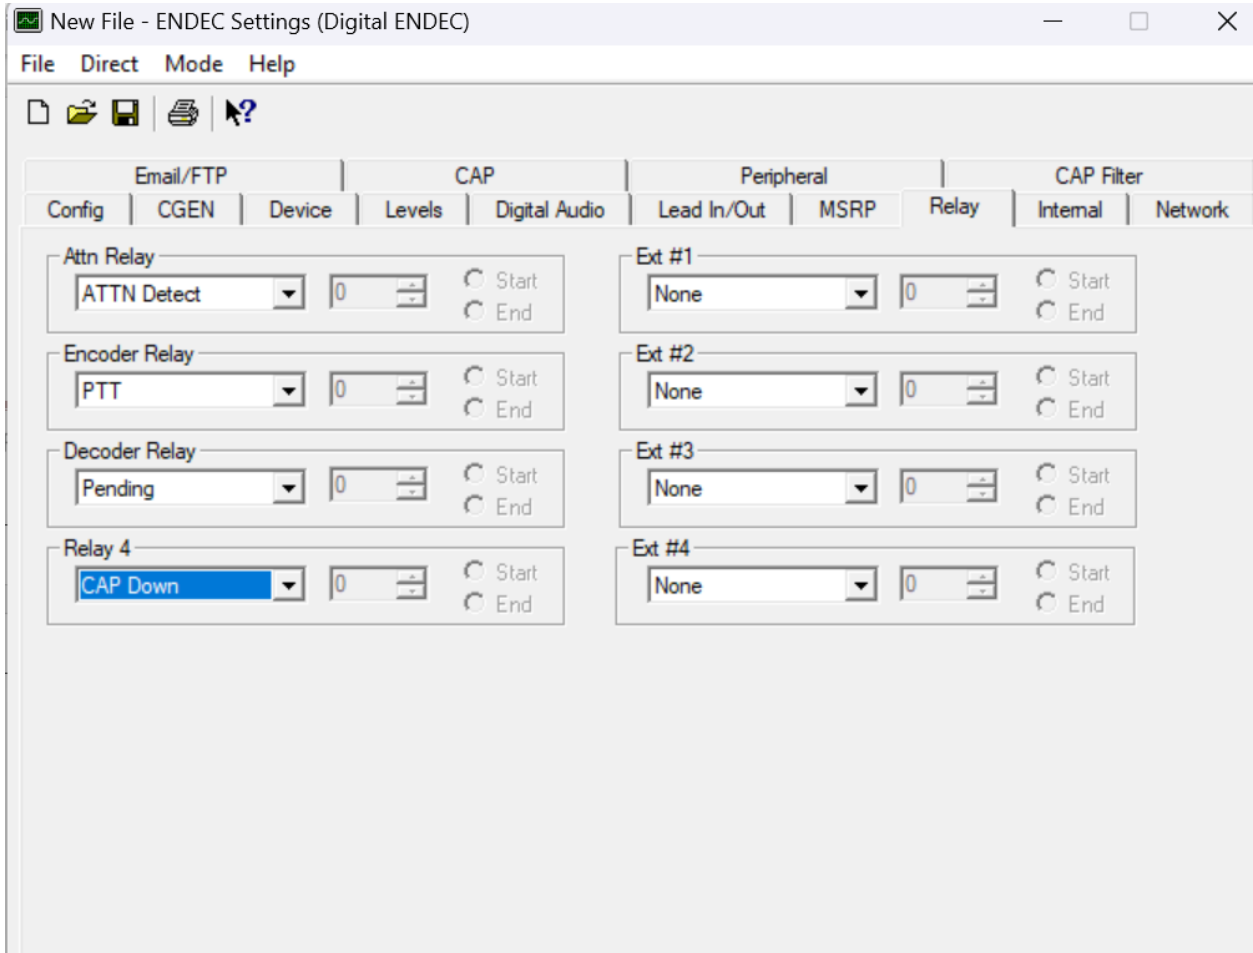

Figure 5.
- a. There are four (4) relays available for signaling or control. The default functions are:
- iv. Relay 4; is set for “none”. This is off by default. For CAP-CP units, this relay should be set to “CAP Down”, as shown in Figure 5. This feature will close the relay if Endec loses connectivity with one or both CAP servers. At the same time the “Automatic” light on front panel will start blinking to indicate an error.